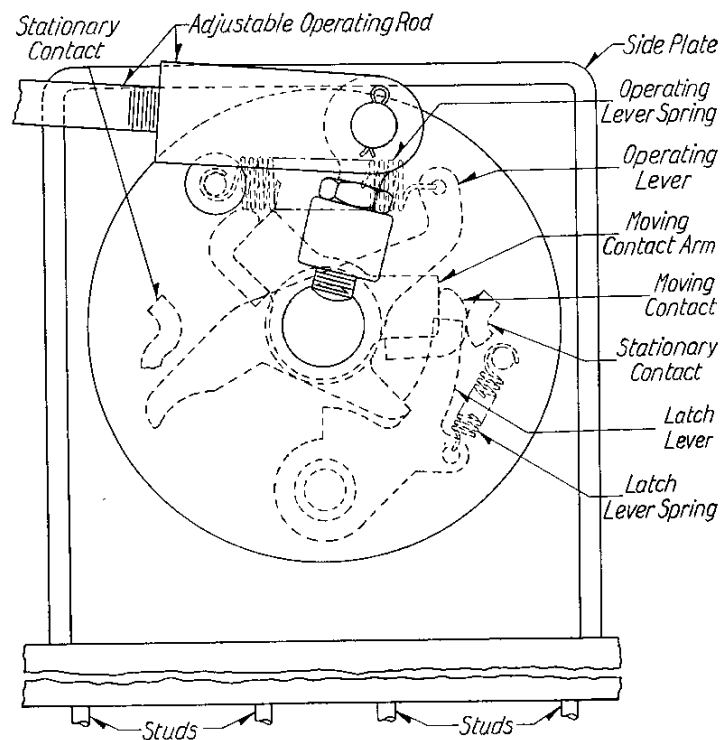

FIG. 22—HESITATING SWITCH
**Hesitating Switch (Fig. 22)**—Hesitating switches are used in the solenoid circuit to cut off the closing current just before the breaker latches.